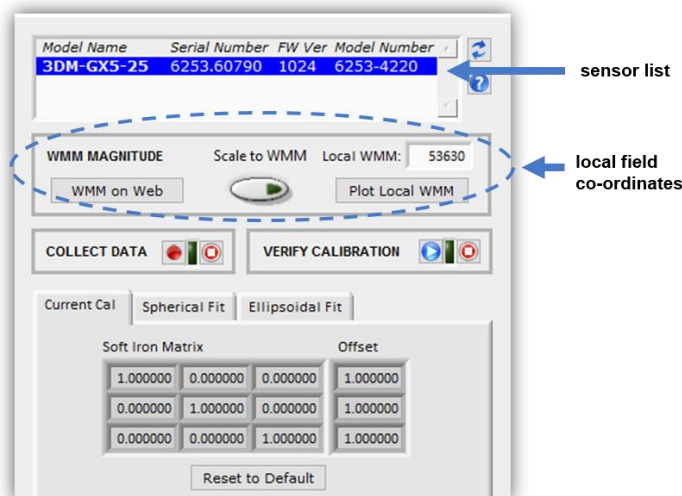

Figure 26 -Sensor Menu
- The sensor should automatically appear in the sensor list. If not, use the Refresh button to query it and then select the sensor (*Figure 26 - Sensor Menu*).